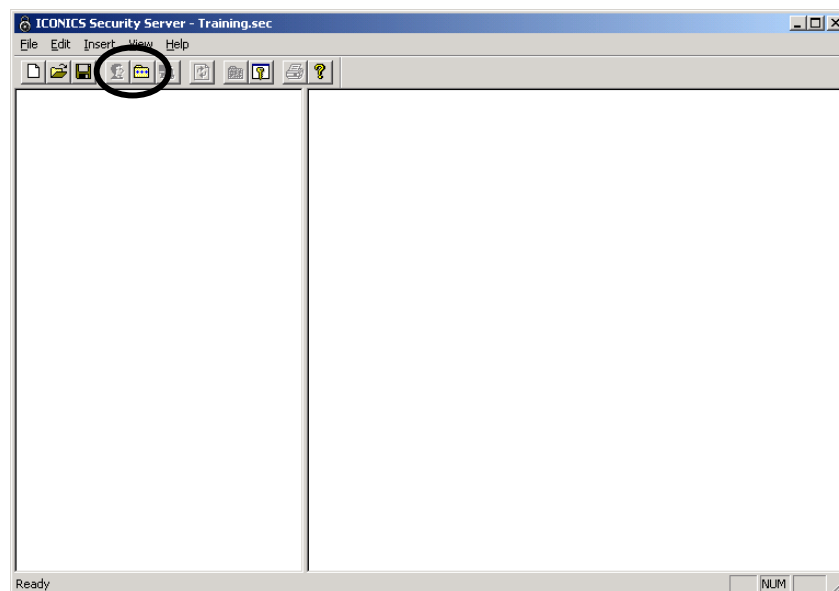

Figure 6.4
2. Just after clicking **Yes** you will need to save this file with the name **Training.SEC**. From here we will create a security group, click the  icon circled in **Figure 6.4**.